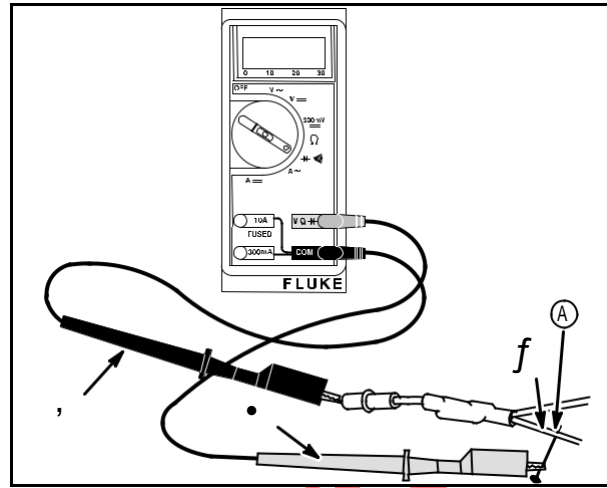

Fig. 22
Attach RED test lead clip (1) to point A, of the WHITE wire (3) **Fig. 22**. (It may be necessary to pierce wire with a pin as shown.)